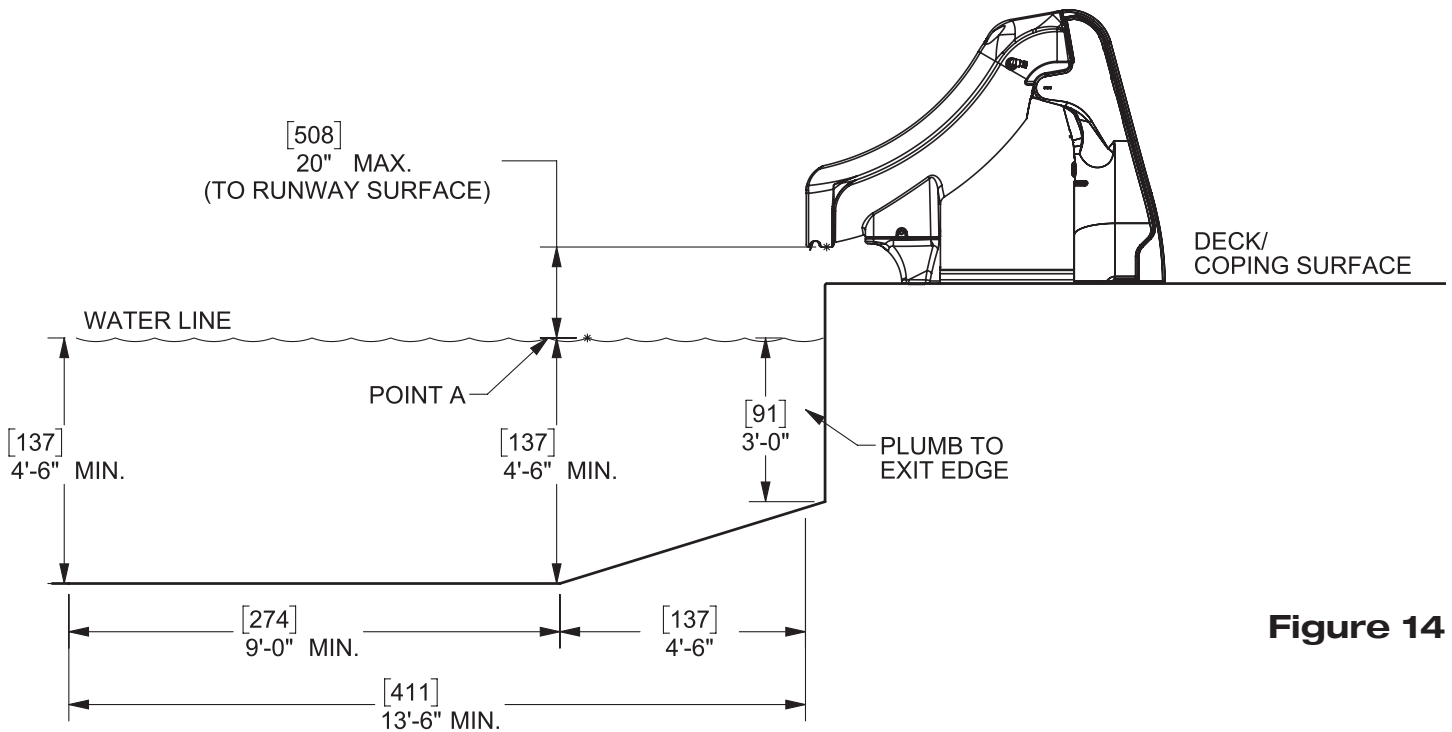

Figure 14
B. The slide exit runway surface shall not exceed 20" (51 cm) above the water surface as shown in **Figure 14**.
D. The minimum depth of water below the exit lip of the slide shall be 3' (91 cm) and increase to 4'6" (137 cm) at Pt. A, which is a distance of 4'6" (137 cm) from the exit lip of the slide as shown in **Figure 14**.
E. A minimum depth of 4'6" (137 cm) shall be maintained at a distance of 9' (274 cm) along the extended centerline of the slide from Pt. A. as shown in **Figure 14**.